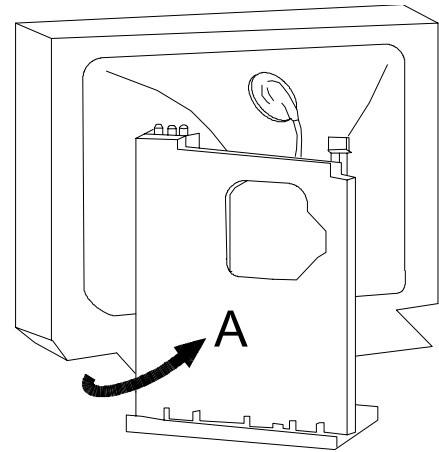

Figure 5-1
- (1) Remove the CN401 (speakers).
- (2) Rotate the circuit board to the direction with arrow A, and set it up. (See Figure 5-1)